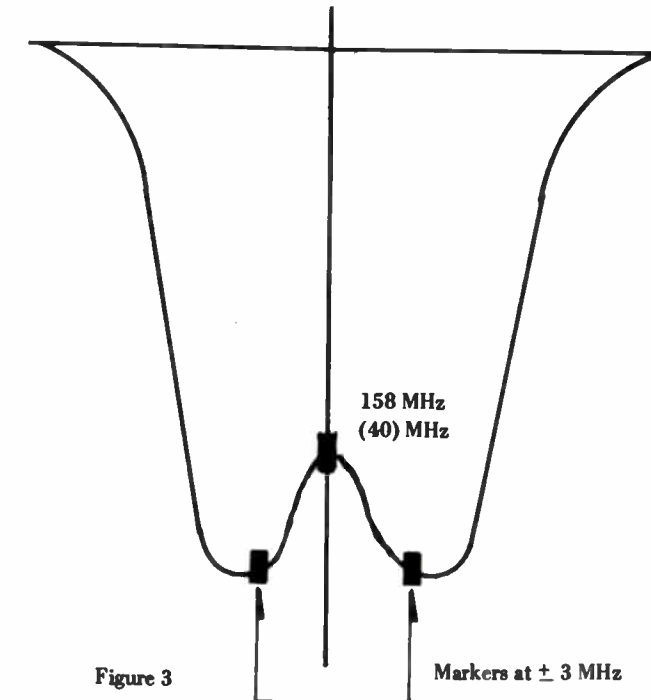

Figure 3
8. Adjust L101, L102, L103 and L104 for the waveform shown in Figure 3 on the Oscilloscope.
shown in Figure 3 on the Oscilloscope.